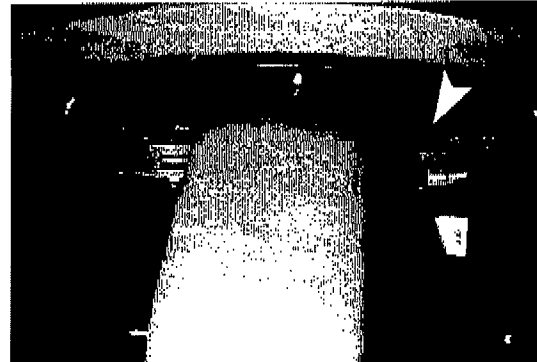

FIG. 6
8. After batteries are properly installed, turn on key and vacuum switch and check battery meter charge level. Charge if necessary (See BATTERY CHARGING) (Figure 6).